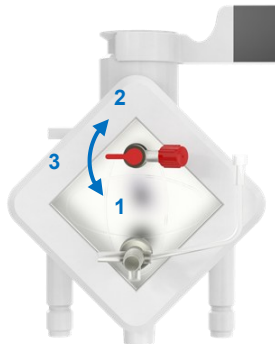

Figure 22 De-airing valve of the oxygenator
- Turn the red valve on the oxygenator down to the pre-filter position, (Figure 22, Position 1; pre-arterial filter).
- Turn the red valve on the oxygenator up to the post-filter position, (Figure 22, Position 2; post-arterial filter).
- Turn the red valve on the oxygenator to the pre-filter position, (Figure 22, Position 1; pre-arterial filter).
- Turn the red valve on the oxygenator to the post-filter position, (Figure 22, Position 2; post-arterial filter).